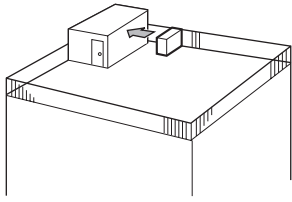

Fig. 2-3
- ① Face the air outlet towards the nearest available wall about 19-11/16 inch (500 mm) away from the wall. (Fig. 2-3)